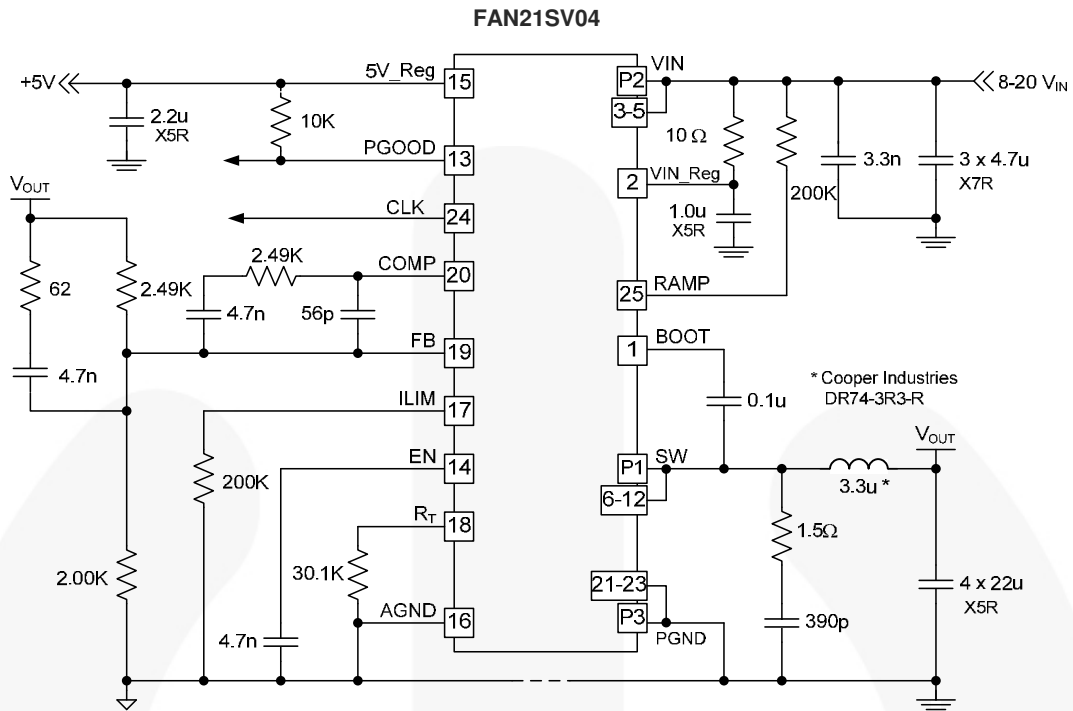
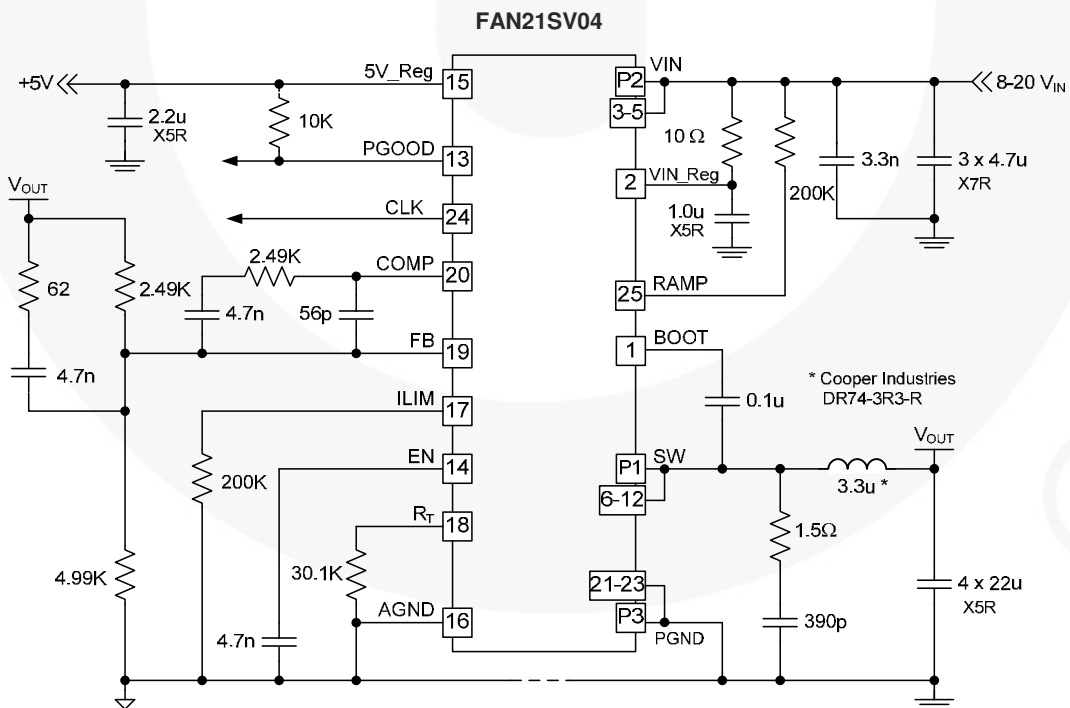

Figure 10. Single-Supply Application Circuit: 1.8 V_{OUT}, 500 KHz, Master, 8 V – 20 V Input
Figure 11. Single-Supply Application Circuit: 1.2 V_{OUT}, 500 KHz, Master 8 V – 20 V Input
Typical operating characteristics using the Figure 10 circuit; $V_{IN}=12\text{ V}$, $V_{CC}=5\text{ V}$, $T_A=25^\circ\text{C}$, unless otherwise specified.
4. Circuit values for this configuration change in Figure 10.
- Circuit values for this configuration change in Figure 10.
Typical operating characteristics using the Figure 10 circuit. $V_{IN}=12\text{ V}$ unless otherwise specified.
For applications with $V_{IN} < 6.5\text{ V}$, FAN21SV04 can be used if V_{IN_Reg} is provided with a separate low-power source $>6.5\text{ V}$. V_{IN_Reg} supply should come up after V_{IN} during dual-supply operation. The V_{IN_Reg} pin should always be decoupled with at least a $10\text{ }\Omega$ resistor and a $1\text{ }\mu\text{F}$ ceramic capacitor (see Figure 10, Figure 11).